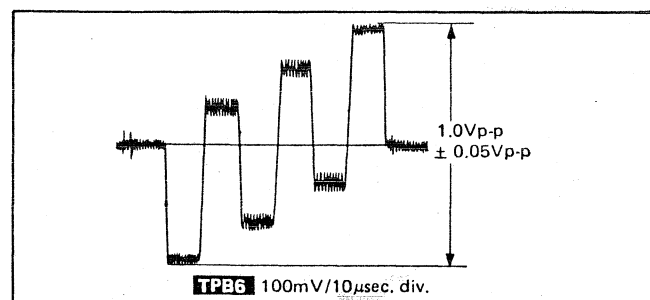

Fig. 9
- Adjust R619 (Sub. Chroma) so that the **TPB6** becomes 1.0Vp-p ± 0.05Vp-p as shown in Fig. 9.